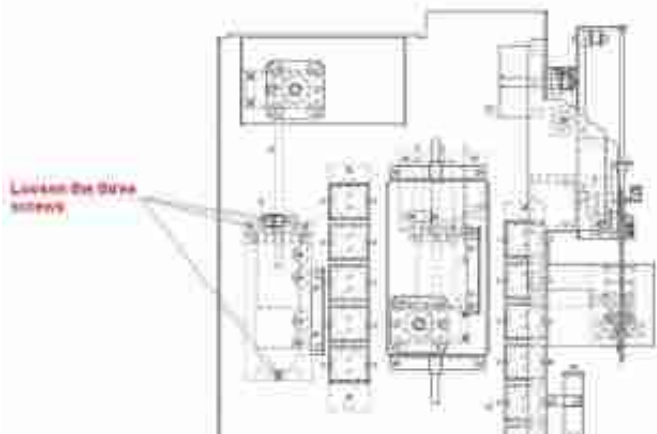

Fig.6-3 Disassembly of the pressure syringe
1. After powering Off the instrument, pull the piston of the pressure syringe to the extreme lowest position, then loosen the three screws that fix the syringe, and disassemble the body of the pressure syringe from the inside plate, as in fig. 6-3: